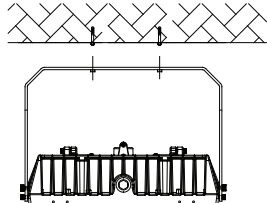

Figure 3
- 3.The holes on the bracket should be aligned with the expansion screws(Figure 3).